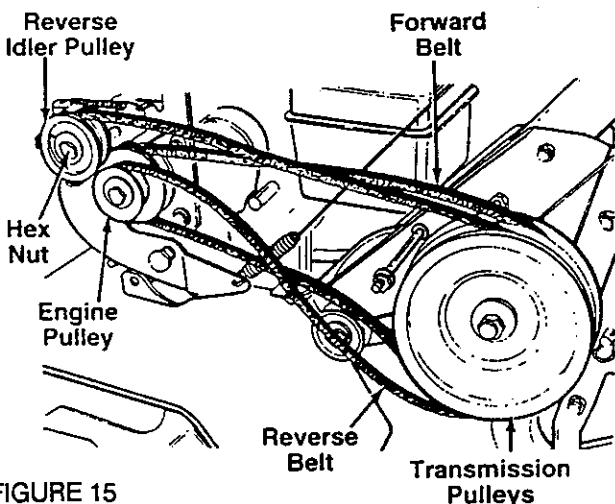

FIGURE 15
3. Lift the belt off the transmission pulley and engine pulley. See figure 15.
4. Remove the hex nut which secures the reverse idler pulley to the idler bracket. See figure 15. Slide idler pulley out and remove the belt.
FORWARD DRIVE BELT (Refer to Figure 15)